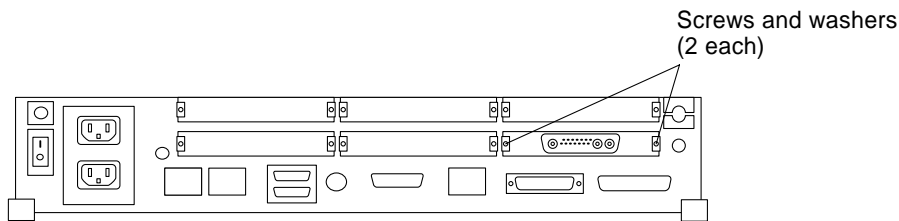

FIGURE 7-1 Rear Panel—Screws and Washers
a. Remove the screws and washers from the outside of the rear panel where the SBus card is. See FIGURE 7-1.